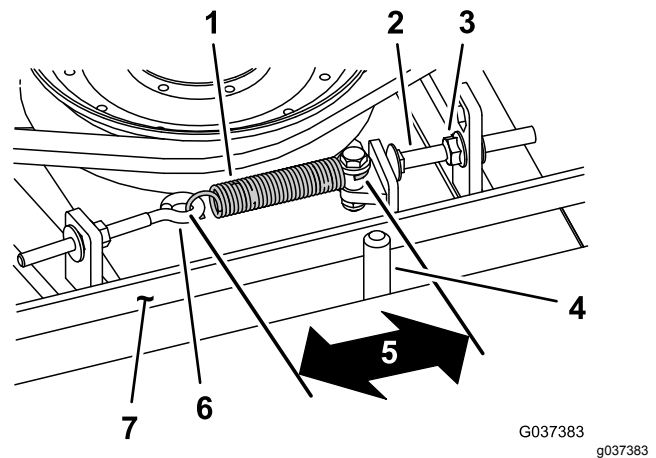

Figure 101
When properly tensioned, the inside measurement of the extension spring (hook to hook) should be approximately 8.3 to 9.5 cm (3-1/4 to 3-3/4 inches). Once the correct spring tension is attained, adjust the stop bolt (carriage bolt) until there is approximately 2 to 5 mm (0.065 to 0.185 inch) clearance between the head of the bolt and the idler arm (Figure 101).
Note: Ensure that the belt is positioned on the spring side of the belt guide (Figure 101).
2. Loosen the eye bolt (Figure 101).
3. Loosen the flange nut securing the stop bolt to the mounting tab and move the idler pulley away from the belt (Figure 101).
9. Connect the extension spring (Figure 101) to the eye bolt and tension the belt as follows: